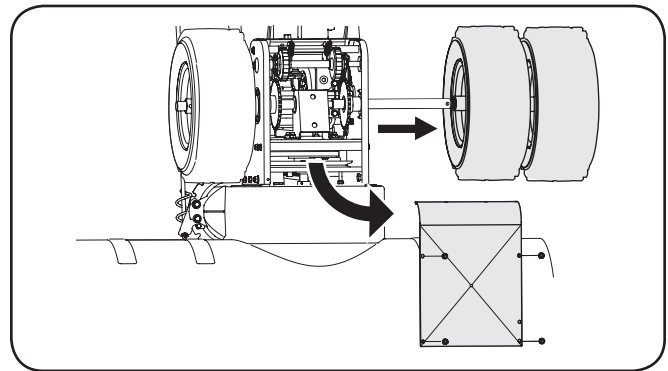

Figure 7-9
- Remove screws from the frame cover underneath the snow thrower, as seen in Figure 7-9. Remove the right wheels from the axle.